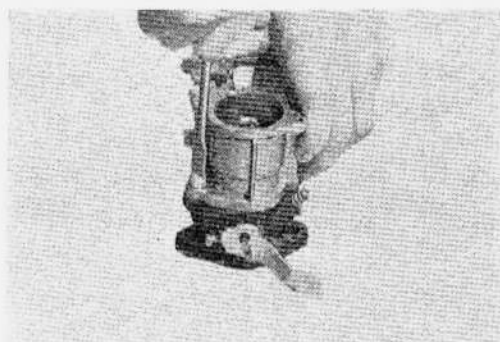

Figure 122
- (10) Remove carburetor flange (Fig. 122).